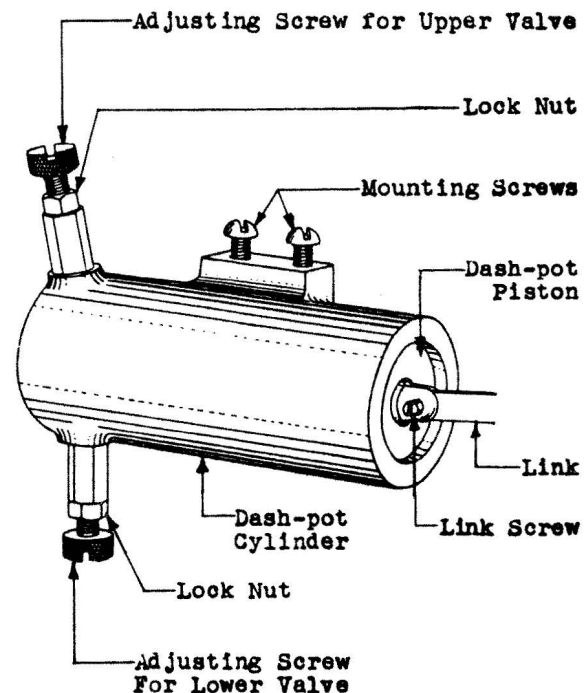

Fig. 31 - Dash-pot with All Metal Plunger
(1) If either or both of the links show any tendency to bind on the sides of the slots in the solenoid core or the dash-pot rod the adjustment should be made by shifting the position of the dash-pot or the solenoid and not by shifting the reset arm. Unless the reset arm is found to be loose no attempt should be made to change its position, since it is carefully aligned center-to-center with the pendulum bearings.
(2) To change the position of the solenoid loosen the two screws holding it to the castings with the 4" regular screwdriver until they are friction tight and tap the solenoid in or out until the desired position is obtained. Then retighten the screws.
(3) If the solenoid is attached to the casting with an "L" shaped bracket, it will be necessary to use shims to shift the position of the solenoid toward the front.
(4) To shift the position of the dash-pot, loosen the dash-pot mounting screws with the No. 344 offset screwdriver where the dash-pot mounts as shown in Fig. 31, until they are friction tight then shift the dash-pot in or out as required by tapping it with a screwdriver.
(10) Reassemble the dash-pot. Then work the reset arm back and forth by hand about six times through its stroke to dislodge any particles of dust which may have gathered around the dash-pot valves. During this operation hold the pendulum in the start position at the left by means of the magnet.
(11) If, after cleaning and reassembling it is found that the speed of the reset arm is not within the specified limits, regulate the dash-pot valves as required.
(12) To increase the time of the reset arm, loosen the locknut of the upper valve on the dashpot with the No. 209 wrench and turn the adjusting screw in with the 4-inch regular screwdriver. To decrease the time, turn the adjusting screw out (see Fig. 31).
(13) The lock nut should then be securely tightened before checking the adjustment.
(14) To regulate the time of return stroke of the reset arm, adjust the lower valve on the dash-pot in the manner specified in (12) and (13).